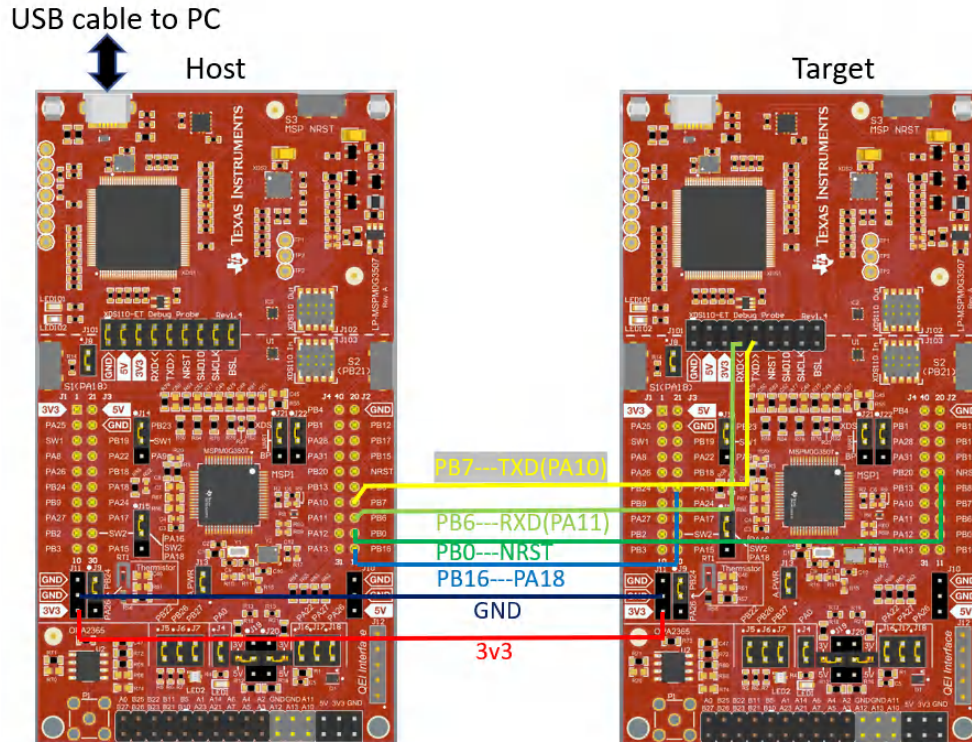

Figure 3-3. Hardware Signal Connections
1. Connect the hardware signals as shown in Figure 3-3. This example uses UART, so the I2C signals do not need to be connected.